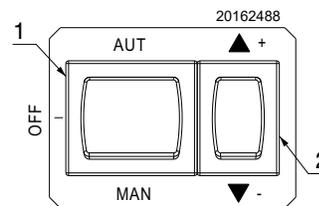
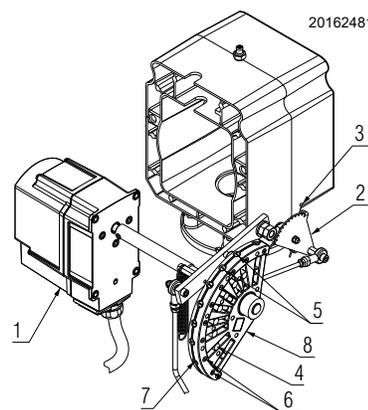

Fig. 38
Fig. 43
Switch off the burner using the switch 1)(Fig. 38), OFF position.
Close the control circuit and set switch 1)(Fig. 38) to "MAN". As soon as the burner starts check the direction of rotation of the fan blade, looking through the flame inspection window 18)(Fig. 4, page 12).
- Move the selector 1)(Fig. 38, page 29) in manual position.
- Move the selector 2)(Fig. 38, page 29) in position (+) (increase output) and keep it until the servomotor has opened the air damper and the gas butterfly valve to 90°.
Progressively adjust the end profile of cam 4)(Fig. 43) by turning the cam adjustment screws as they appear through the access opening 6).
- Move the selector 2)(Fig. 38, page 29) in position (-) (reduction output) until the servomotor has closed the air damper and the gas butterfly valve to 15° (factory set adjustment).
- If it has to be increased move the selector 2)(Fig. 38, page 29) in position (+) (increase output) (i.e. open the gas butterfly valve by 10-15°), increase the cam black angle with small successive movements, i.e. take it from angle 15° to 17° - 19°.... (Refer to paragraph "Cams adjustment" on page 29).
- Move the selector 2)(Fig. 38, page 29) in position (-) (reduction output) until the servomotor is taken to the minimum opening position and measure the gas delivery.
Progressively adjust the starting profile of cam 4)(Fig. 43) by turning the screws working through the access hole 6).
- Place the selector 1)(Fig. 38, page 29) in manual position.
- Place the selector 2)(Fig. 38, page 29) in middle position and set the variable profile cam 4)(Fig. 43) by turning the screws 5).
When the adjustment is complete, switch off the burner using the switch 1)(Fig. 38, page 29), OFF position, release the mechanical cam 8)(Fig. 35, page 28) to separate the gears of the servomotor (Refer to paragraph "Disengage the gears of the servomotor" on page 29), and by manually turning several times the mechanical cam 8)(Fig. 35, page 28) backwards and forwards check that the movement is smooth and without any hindrance.